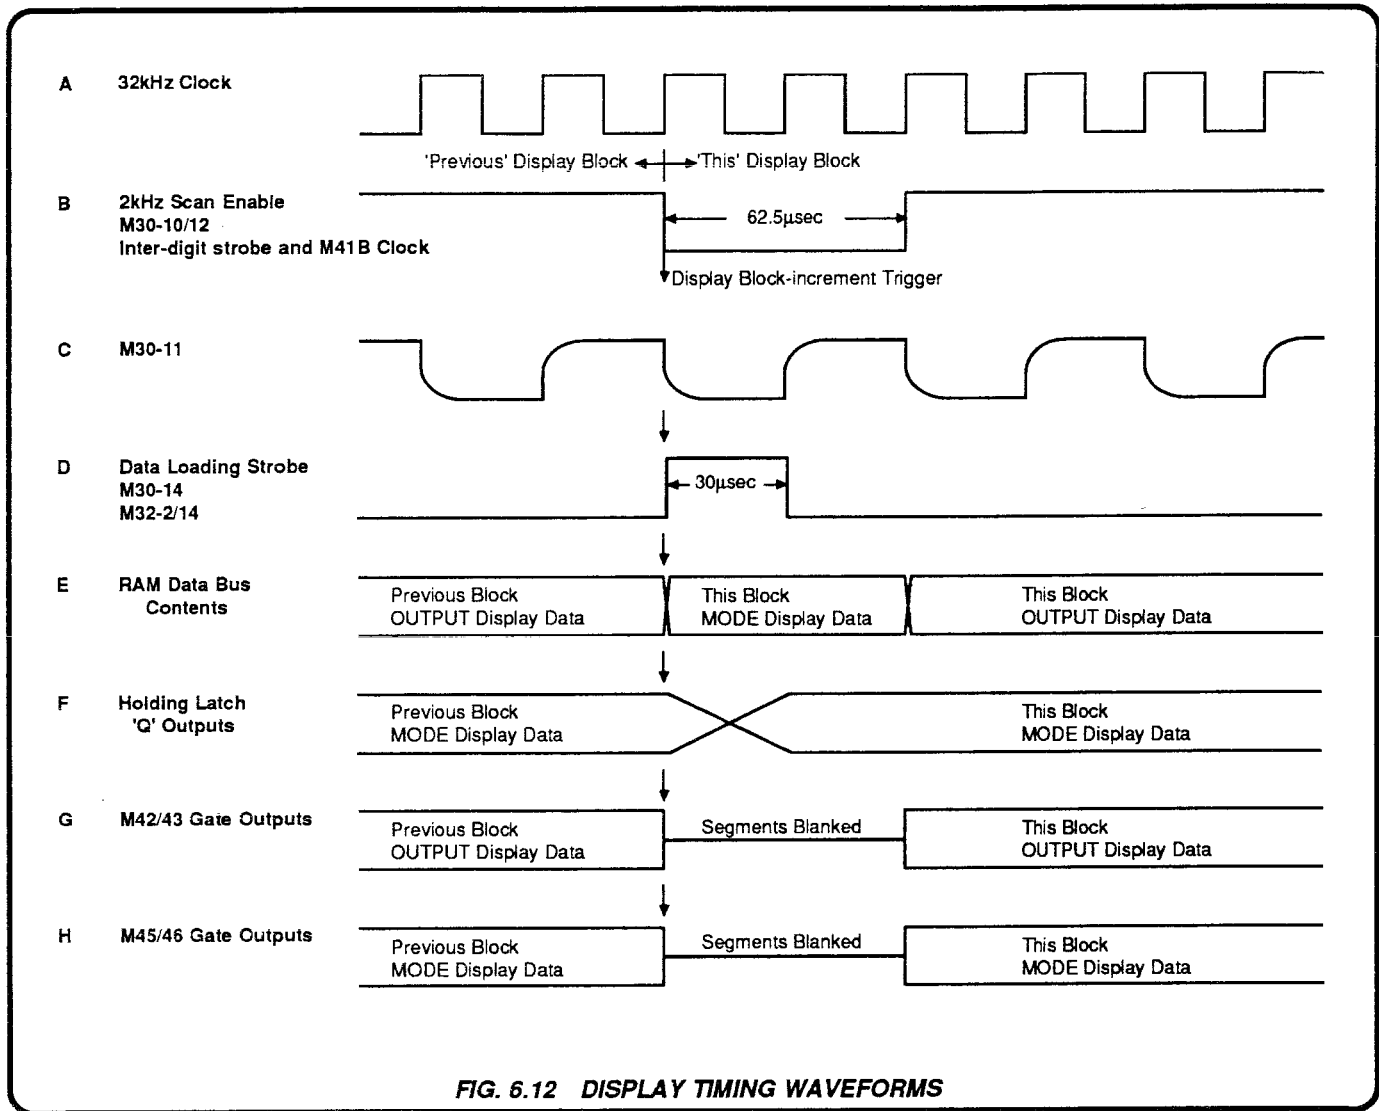

FIG. 6.12 DISPLAY TIMING WAVEFORMS
(Fig. 6.12)
**Block Changeover:** The next block is selected during the display master timing pulse (Fig. 6.12, Waveform B).